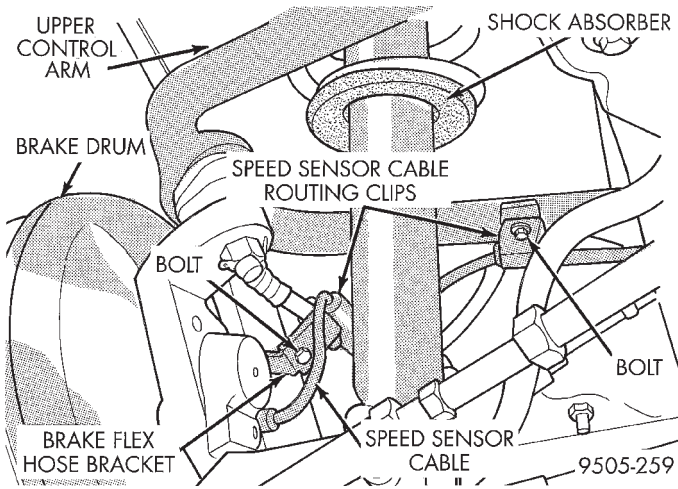

Fig. 6 Speed Sensor Cable Attachment To Control Arm
(7) If vehicle is equipped with antilock brakes, remove routing clips for wheel speed sensor cable from brackets on upper control arm (Fig. 6).
(9) If vehicle is equipped with antilock brakes, install the wheel speed sensor cable routing clip on upper control arm mounting bracket (Fig. 6). Install and securely tighten attaching bolt.
(10) Install wheel and tire assembly on vehicle. Tighten the wheel mounting stud nuts in proper sequence until all nuts are torqued to half specifica-